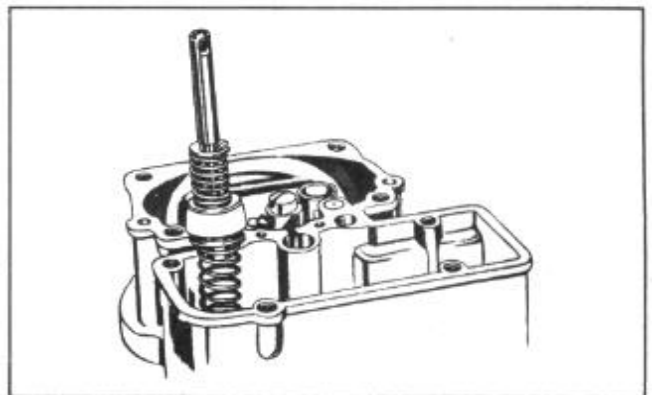

FIGURE 73
9. Install lower pump spring and plunger assembly, Figure 73.